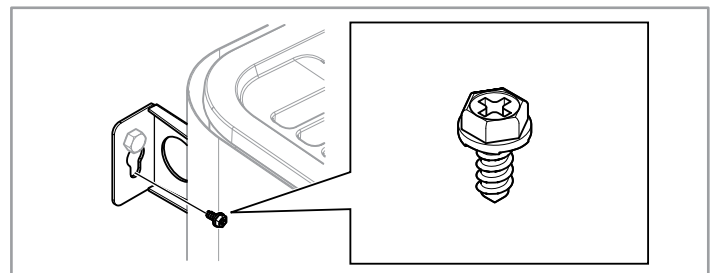

Figure 14: Lock screw for bracket
12. Lock the heater into place with the lock screw see Fig. 14.